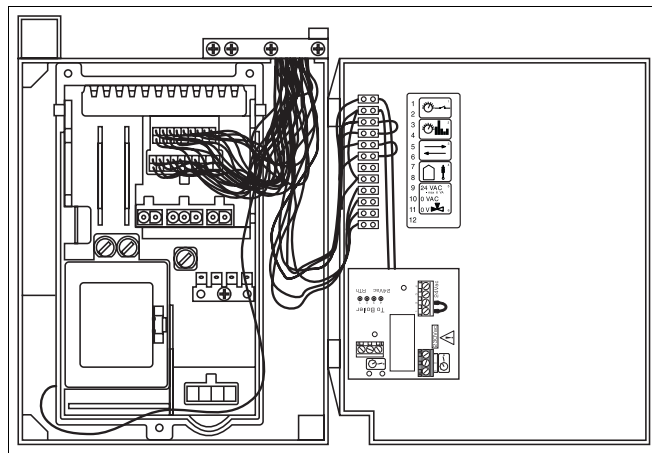

Fig. 55 Opening the UBA housing
- Open the UBA housing (fig. 55).